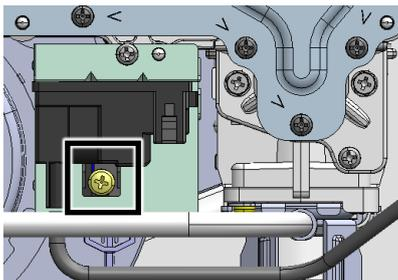

Figure 3
7. Remove screw securing the ignitor and place the ignitor aside (Figure 3).